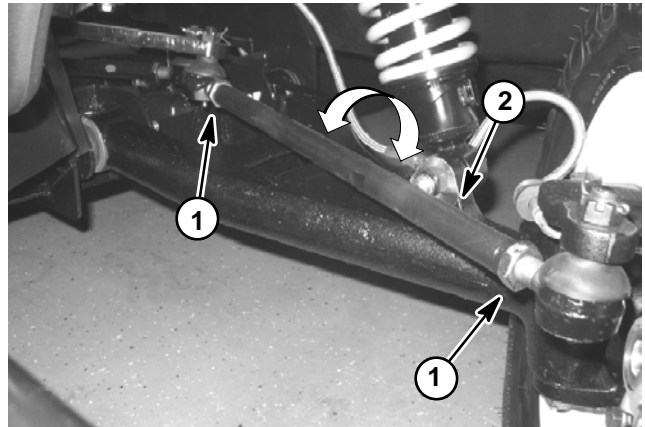

Figure 2.4
- A. Loosen jam nuts at both ends of tie rods (Fig. 2.4).